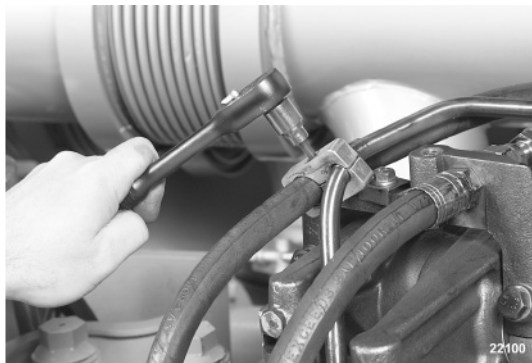

Figure 7.8 *Fuel Line Clamp.*
3. Remove clamp from internal fuel lines using 3/8" ratchet and internal hex socket. (*figure 7.8*)